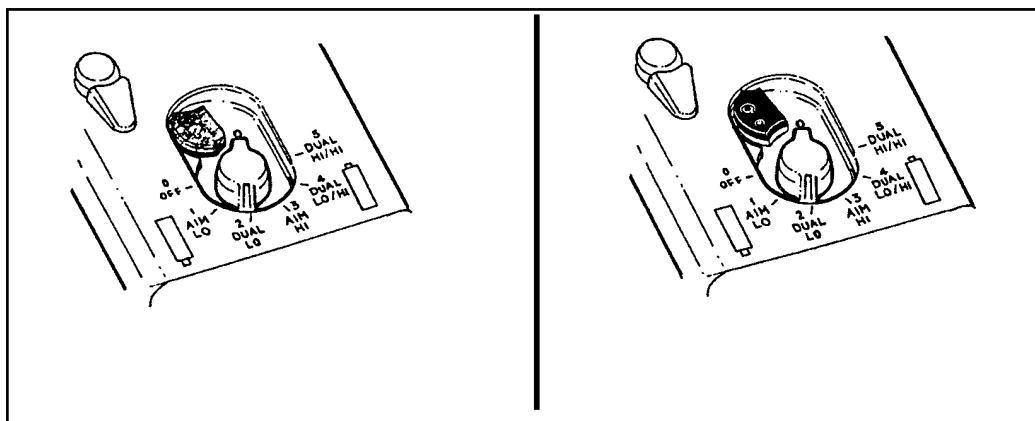

Figure F-8. Safety block installation.
(2) **Safety Block Installation** (Figure F-8). The safety block installed in the training mode (blue side up) prevents the operator from accessing the noneye safe modes (AIM HI, DUAL LO/HI, DUAL HI/HI). A .050 hex head Allen wrench is needed to unscrew the block from the body and reinstall it in the tactical mode (black side up).